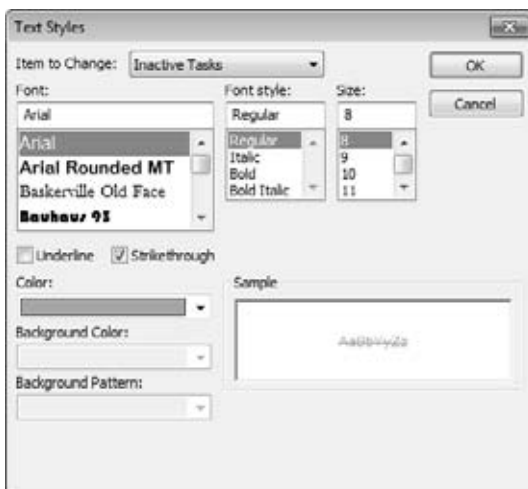

Figure 23-21:
3. **In the Item to Change drop-down list, choose the category you want to reformat, as shown in Figure 23-21.**